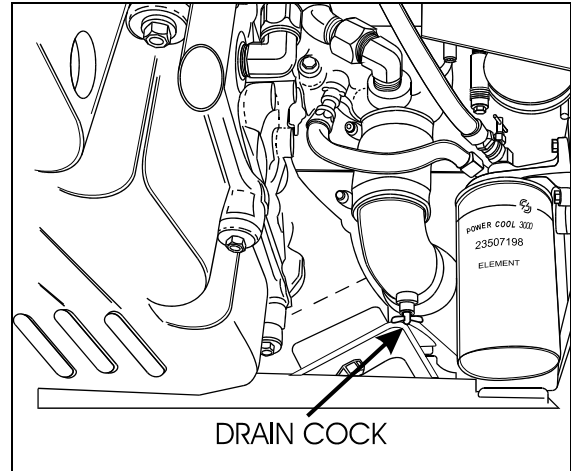

FIGURE 9: WATER PUMP DRAIN COCK 05072
3. Open the water pump housing inlet line drain cock (Fig. 9).